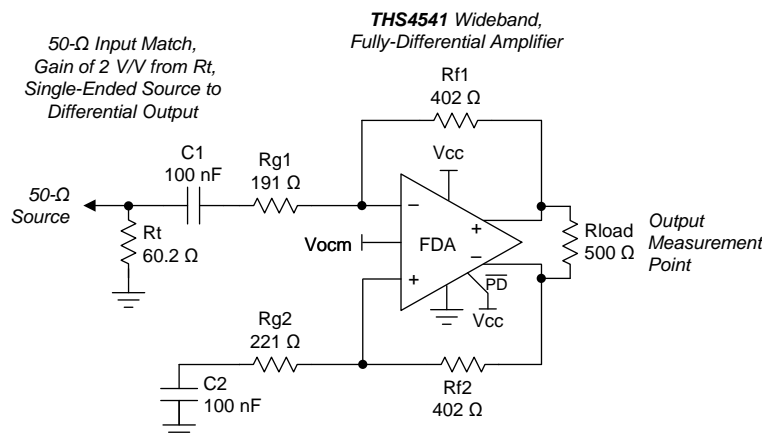
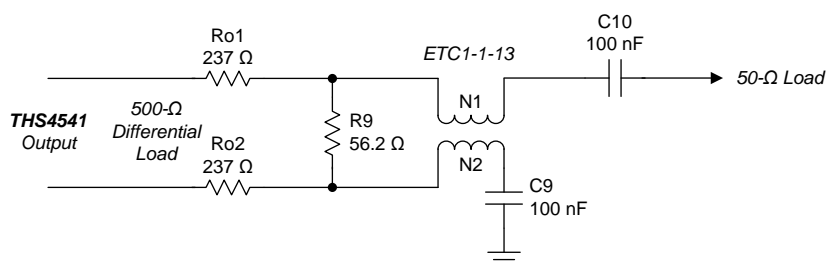
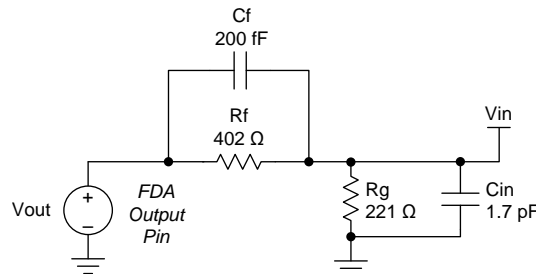
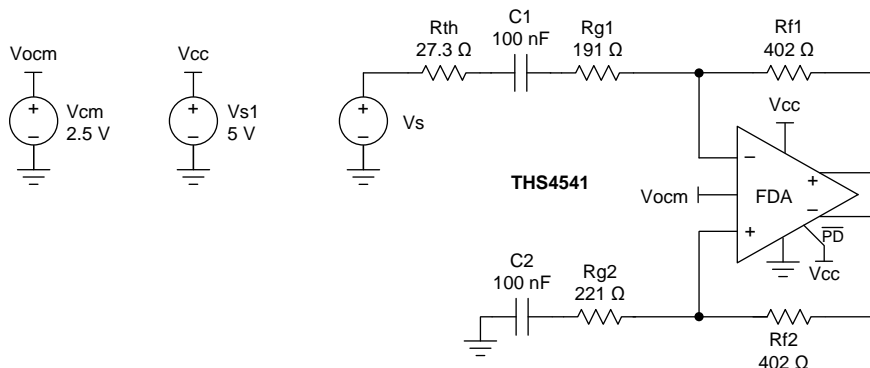

Figure 61. AC-Coupled, Single-Ended Source to a Differential Gain of a 2-V/V Test Circuit
Figure 62. Example 500- Ω Load to a Single-Ended, Doubly-Terminated, AC-Coupled, 50- Ω Interface
Figure 65. Feedback Network for the Gain of 2 Configuration Using 402 Ω and Matching to a 50-Ω Source
Figure 68. Input Swing Analysis Circuit from Figure 61 with Thevenized Source
$G = 5\text{ V/V}$, 50-MHz input, 0.3-ns input edge rate, single-ended input to differential output, see Figure 61
2- V_{PP} output, see Figure 61 with $V_{S+} = 3.0\text{ V}$, $V_{ocm} = 1.5\text{ V}$
$f = 10\text{ MHz}$, see Figure 61 with $V_{S+} = 3.0\text{ V}$, $V_{ocm} = 1.5\text{ V}$
1 V_{PP} each tone, see Figure 61 with $V_{S+} = 3.0\text{ V}$, $V_{ocm} = 1.5\text{ V}$
$f = 10\text{ MHz}$, 2- V_{PP} output, see Figure 61 and Table 6 for gain setting
Single-ended input to differential output, simulated differential output impedance, (closed-loop) gain of 2 and 5, see Figure 61
Single-ended input to differential output, gain of 2 (see Figure 61), simulated with 1% resistor, worst-case mismatch
Single-ended to differential, gain of 2 (see Figure 61) PSRR simulated to differential output
Single-ended to differential gain of 2 (see Figure 61), PSRR for negative supply to differential output (1-kHz simulation)
Single-ended to differential gain of 2 (see Figure 61), PSRR for positive supply to differential output (1-kHz simulation)
Because most lab equipment is single-ended, the characterization circuits typically operate with a single-ended, matched, 50-Ω input termination to a differential output at the FDA output pins. That output is then translated back to single-ended through a variety of baluns (or transformers) depending on the test and frequency range. DC-coupled, step-response testing uses two 50-Ω scope inputs with trace math. The starting point for any single-ended-to-differential, ac-coupled characterization plot is shown in Figure 61.
Most characterization plots fix the R_f (R_{f1} = R_{f2}) value at 402 Ω, as shown in Figure 61. This element value is completely flexible in application, but the 402 Ω provides a good compromise for the parasitic issues linked to this value, specifically:
- Added output loading. The FDA appears like an inverting op amp design with both feedback resistors as an added load across the outputs (approximate total differential load in Figure 61 is 500 Ω || 804 Ω = 308 Ω).
The frequency domain characterization curves start with the selections of Figure 61. Then, various elements are modified to show their impact over a range of design targets, specifically:
Because most network and spectrum analyzers are a single-ended input, the output network on the THS4541 characterization tests typically show the desired load connected through a balun to a single-ended, 50- Ω load, while presenting a 50- Ω source from the balun output back into the balun. For instance, Figure 62 shows a wideband MA/Com balun used for Figure 61. This network shows a 500- Ω differential load to the THS4541, but an ac-coupled, 50- Ω source to the network analyzer. Distortion testing typically uses a lower-frequency, dc-isolated balun (such as the TT1-6T) that is rotated 90° from the wider band interface of Figure 62.
Figure 1 illustrates the small-signal response shape versus gain using a fixed 402-Ω feedback resistor in the circuit of Figure 61. Being a voltage-feedback based FDA, the THS4541 shows a response shape that varies with gain setting, largely determined by the loop-gain crossover frequency and phase margin at the crossover. This loop-gain crossover frequency is where the open-loop response and the noise gain intersect (where the loop gain drops to 1). The noise gain is the inverse of the voltage divider from the outputs back to the differential inputs; use a balanced divider ratio on each feedback path. In general, the noise gain (NG) does not equal the signal gain for designs providing an input match from a source impedance. NG is given by $1 + R_f / (\text{total impedance from the inverting summing junction to ground})$. Using the resistor values computed in the gain sweep of Table 6, and repeating that sweep showing the NG gives Table 1, where only the exact R solutions are shown.
NG is critically important for bandwidth and all output error terms (such as dc offset and noise). For lower-speed devices, normally only the dc noise gain is considered. However, for the THS4541, with loop gain crossover at greater than 300 MHz, the feedback network produces a parasitic pole to the differential summing junctions that causes the noise gain to increase with frequency. This pole causes a lower crossover frequency than might be expected with added phase shift around the loop. Consider the feedback network (single-ended) of Figure 65, showing a parasitic 0.2 pF on the feedback 402-Ω resistor. The 0.85-pF differential input capacitance of the THS4541 is converted to single-ended as a 1.7-pF parasitic for this single-sided analysis circuit (the Rg shown is Rg in Figure 61).
The response shape from Vout to Vin in Figure 65 has a pole and then a zero. To describe NG, invert the Laplace transform of Vin and Vout from Figure 65 to provide the frequency-dependent NG response of Equation 1, where a zero comes in first and then a pole.
The zero location is key. Using the gain of 2 values of Figure 65, the estimated zero in the NG is 588 MHz. Limiting the parasitic capacitance at the summing junctions, either differentially or signal-ended, to a ground or power plane is critical in board layouts.
One method of deriving the voltage range for V_{cm} for any single-ended input to differential output design is to determine the voltage swing on the nonsignal-input side of the FDA outputs and simply take its divider back to the input pin to ground or the dc reference used on that side. An example analysis is shown in Figure 68, where the circuit of Figure 61 is simplified to show just a Thevenized source impedance.